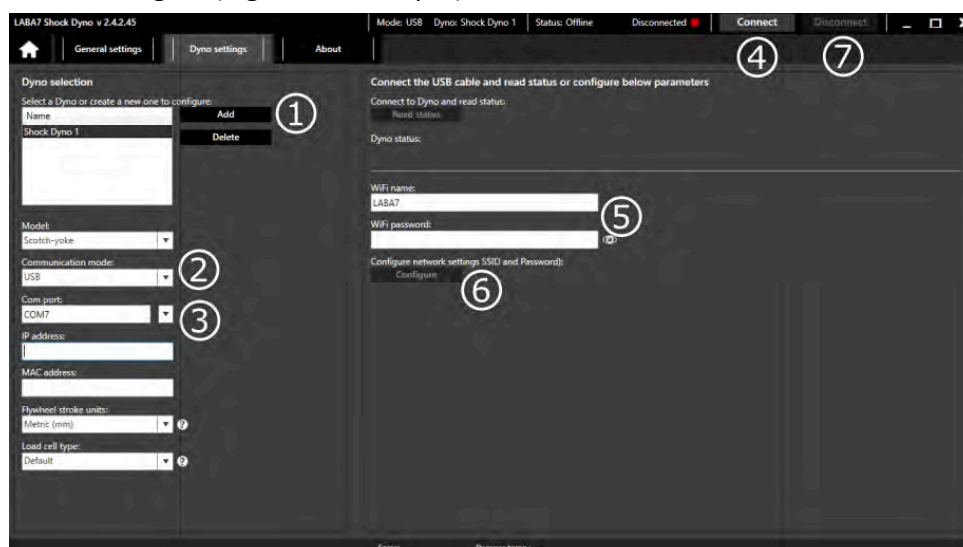

Figure 18
6. Press “add” (Figure 18 – Step 1).
7. Select USB communication mode (Figure 18 – Step 2).
8. From 2 newly appeared com-ports select **COM7 - LABA7 Dyno** (Figure 18 – Step 3).
9. Press “Connect” (Figure 18 – Step 4).
10. Enter Wi-Fi name and password into the corresponding fields (Figure 18 – Step 5).
11. Click on Configure button (Figure 18 – Step 6).
12. After successful configuration press “disconnect” (Figure 18 – Step 7).
14. Press “connect” again (Figure 18 – Step 4).